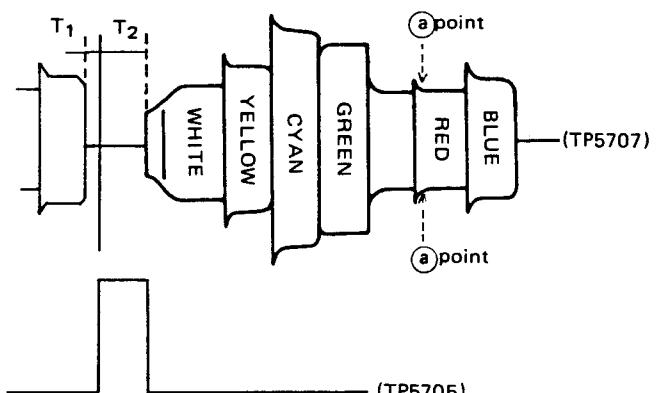

Figure 62.
2. Connect an oscilloscope to TP5707 and TP5705, and check that the output of chroma signal is as shown in Fig. 62.
Adjust T5702 so that the output at the point ② is as shown in Fig. 62.